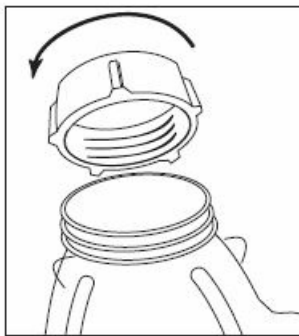

FIGURE 4
5. Place the Threaded Bottom Cap on Blender Jar and turn it clockwise to tighten. (Figure 4)